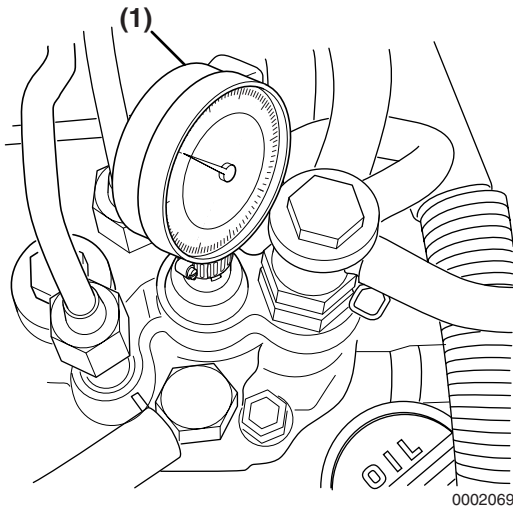

Figure 7-43
- Note the reading on the dial indicator (**Figure 7-43, (1)**). If the reading is less than 2.5 mm (0.098 in.), the fuel injection timing is “retarded.” If the dial indicator reading is greater than 2.5 mm (0.098 in.), the fuel injection timing is “advanced.”